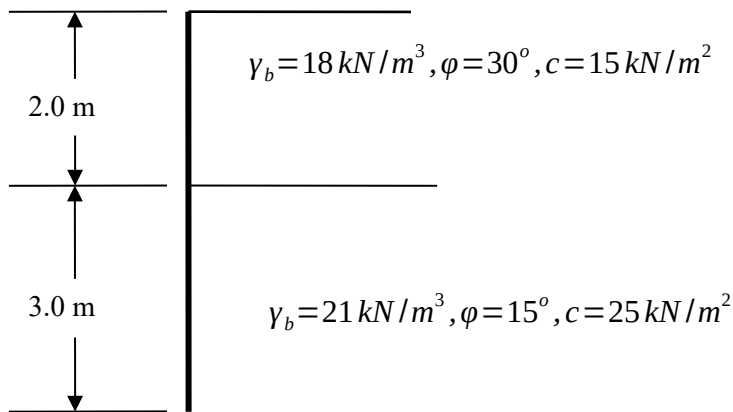

Fig. 1.1: Retaining wall
- b) Details of a retaining wall are given in Figure 1.1. Ignoring tension cracks: